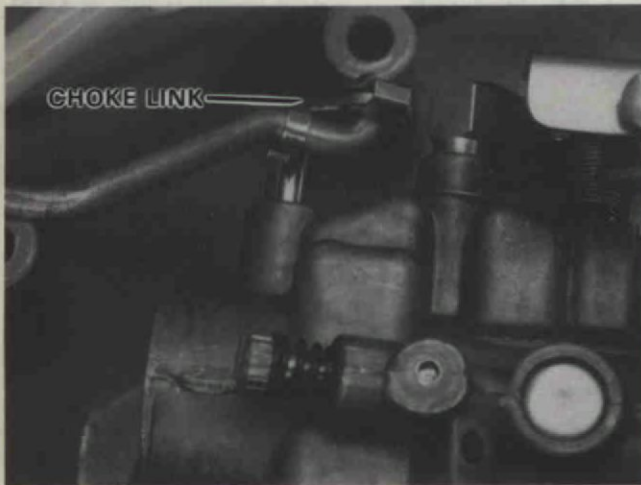

Figure 5. Disconnecting Choke Link from Carburetor.
3. Disconnect choke link from carburetor. Figure 5.